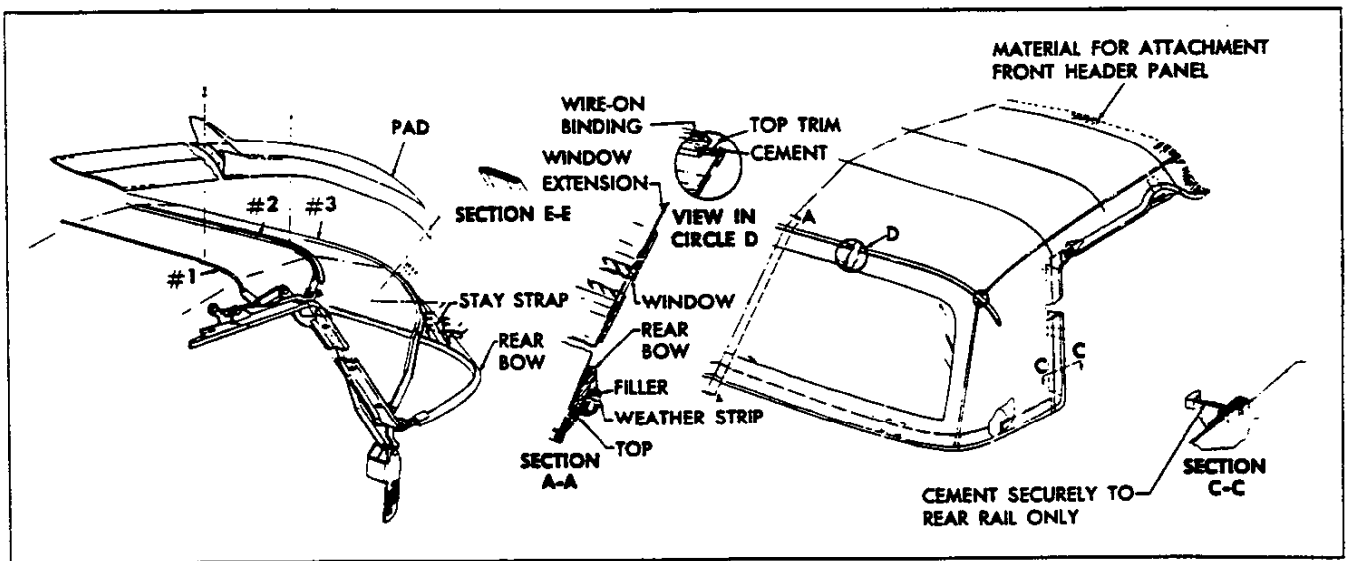
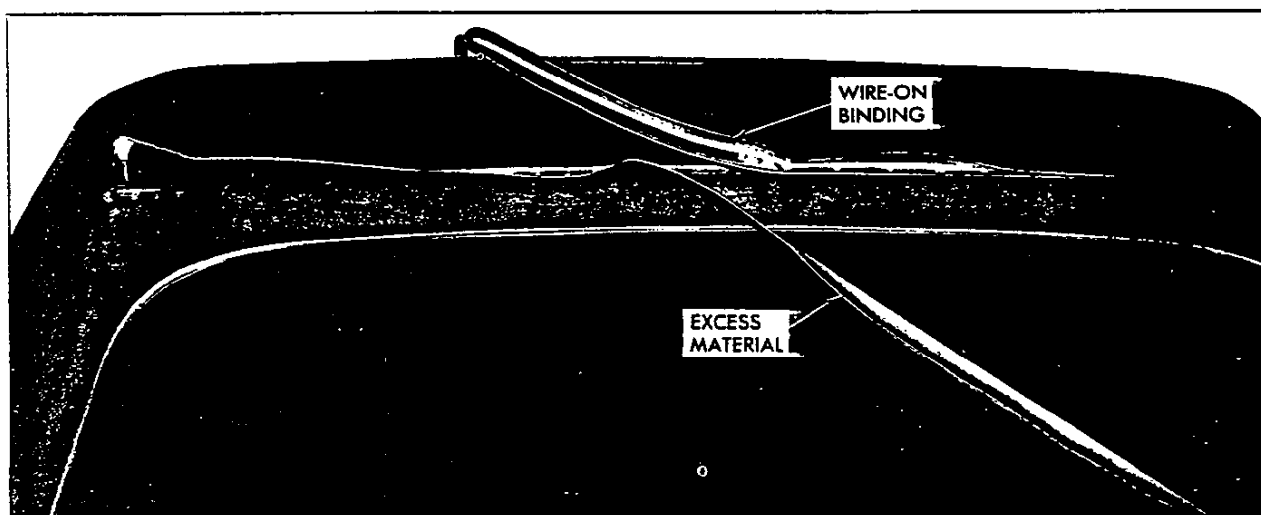
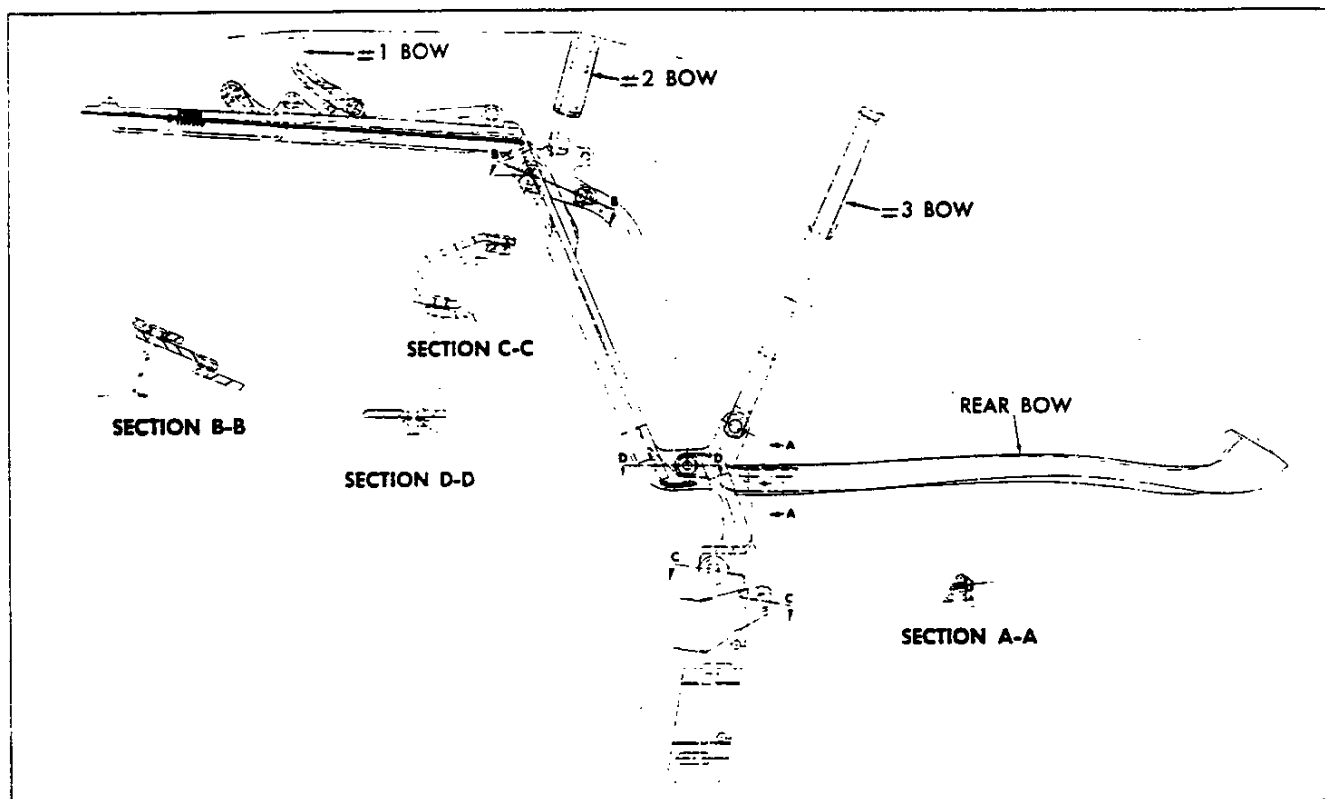

Fig. 69—Folding Top Trim Installation
Fig. 76—Installing Binding
Fig. 77—Top Frame and Linkage
The following information deals with removal and installation of the folding top trim and window assembly complete. Figure 69 may be referred to for parts identifications. Lettered sections (i.e. Section A-A) referred to in the instructions may also be found in Figure 77. Note that the sections are illustrated as they would appear if the parts were cut through on the lettered lines
8. Draw window extension up to #3 bow, aligning centering marks. Turn an ample amount of fabric under and tack to #3 bow. Apply neoprene trim cement, GM Part #3695016 or equivalent, to area shown in View D of Figure 69. Follow directions on package.
10. Trim off excess material and install wire-on binding as shown in Figure 76 and View D of Figure 69. Install binding caps.
Figure 77 illustrates construction features of the folding top frame and linkage. Various cross sections in Figure 77 show the pivoting joints and their assembly.
### CENTER ROOF REINFORCEMENT TRIM REMOVAL (Fig. 77)